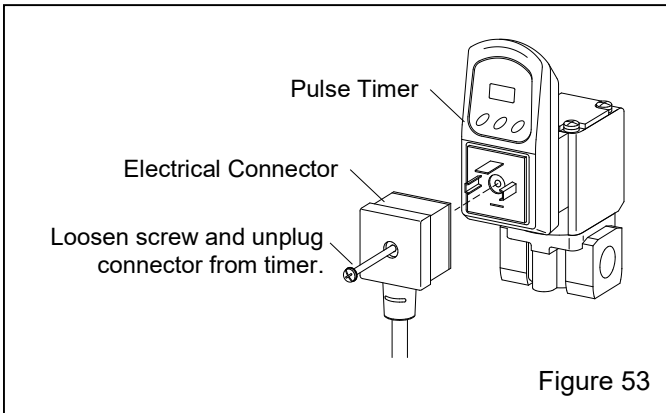

Figure 53
7.18.1 Loosen the connector screw and unplug the electrical connector from the timer, as shown in Figure 53.